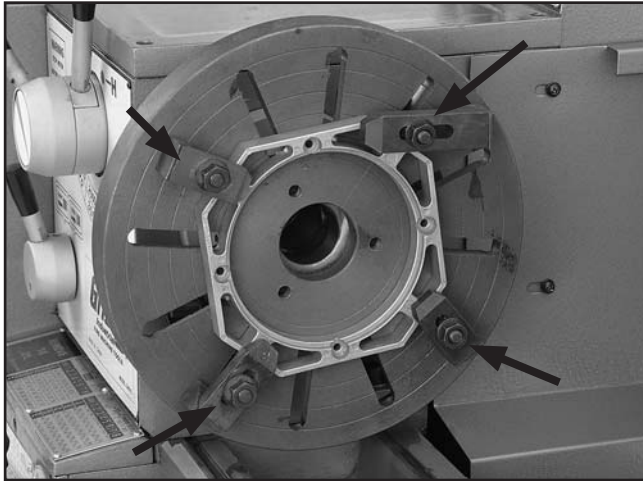

Figure 31. Faceplate with properly clamped workpiece in four locations.
- Secure the workpiece with a minimum of three independent clamping devices (see **Figure 31**). Failure to follow this step may lead to deadly injury to yourself or bystanders. Take into account rotation and the cutting forces applied to the workpiece when clamping to the faceplate. **Make sure your clamping application will not fail!**